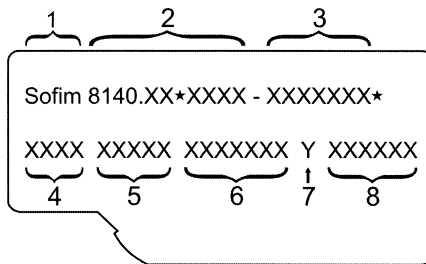

Fig. 2.5. Identification Number of Sofim
**Identification number of Sofim 8140.43C engine** (Fig. 2.5) is punched on the plane surface of the cylinder block in the rear part of the engine at the right side.